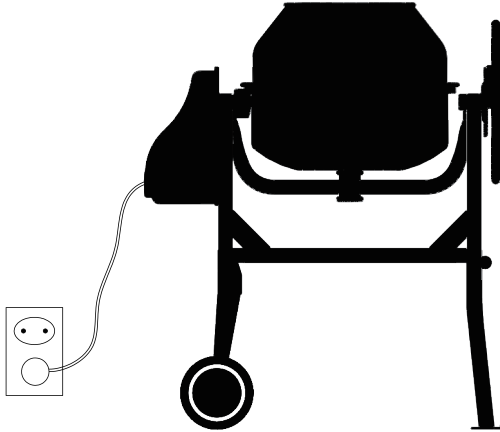

Fig. 12
3. To avoid the possibility of the plug or mains socket getting wet, position the product to one side of a wall-mounted socket. Arrange a “drip loop” in the power cord connecting the product to a socket (Fig. 12).